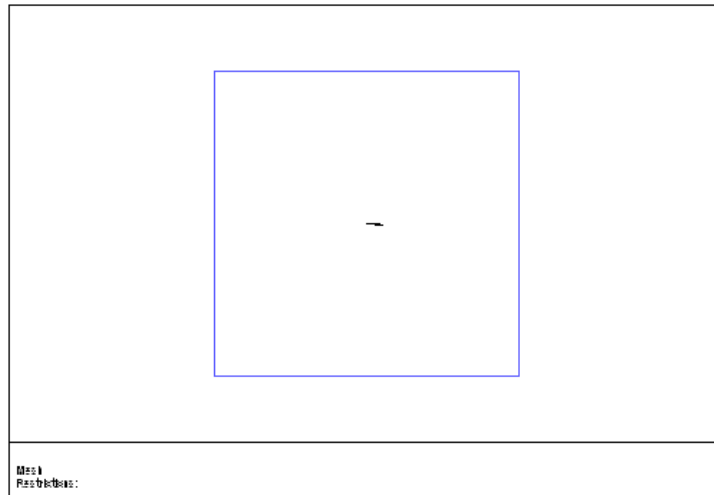

Figure 4.3.3: Display of Wedge Boundary Faces
- (b) Click Display (see Figure 4.3.3).